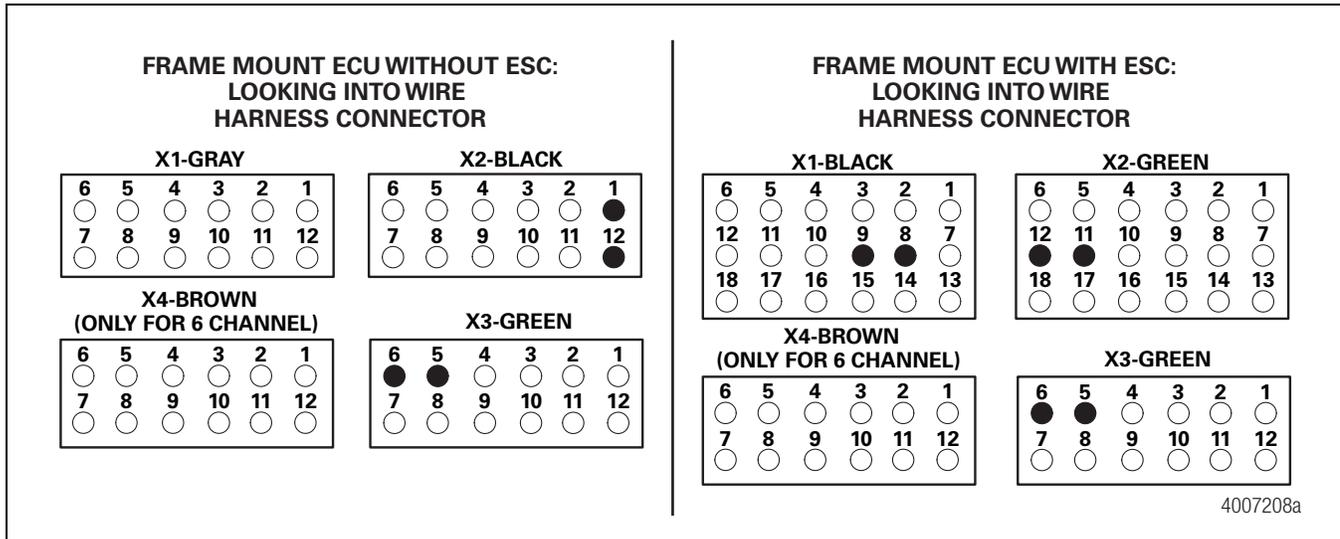

Figure 3.24
- Check ECU harness and ABV 3/2 solenoid together for resistance. Figure 3.23 and Figure 3.24.